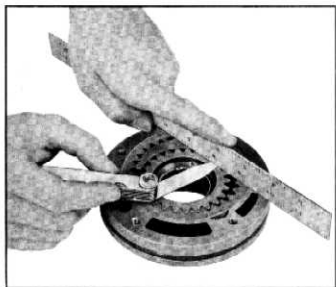

Fig. 103—Gear End Clearance
- c. With scale and feeler gauge check gear end clearance. This clearance should be .0005" to .0015" (fig. 103).
- c. With scale and feeler gauge check gear end clearance. This clearance should be .0005"-.0015" (fig. 103).